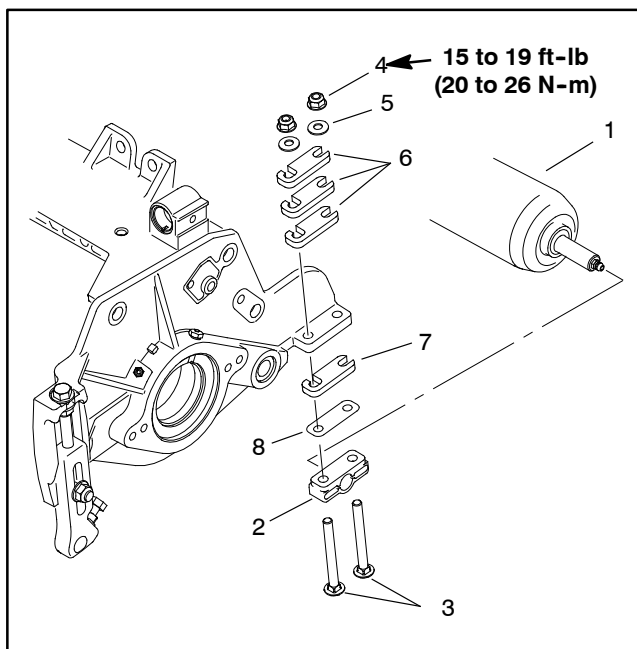

Figure 22
7. If rear roller is still not level after adjusting both side plates, check to see if cutting reel is tapered (see Preparing Reel for Grinding in this chapter). If cutting reel is not tapered and rear roller is not level, a 0.010" shim (part number 107-4001) is available to allow additional rear roller adjustment. The shim would be used on one side of the rear roller and should be installed between the rear roller bracket and roller shim (Fig. 22). Tighten the flange nuts to a torque from **15 to 19 ft-lb (20 to 26 N-m)**.